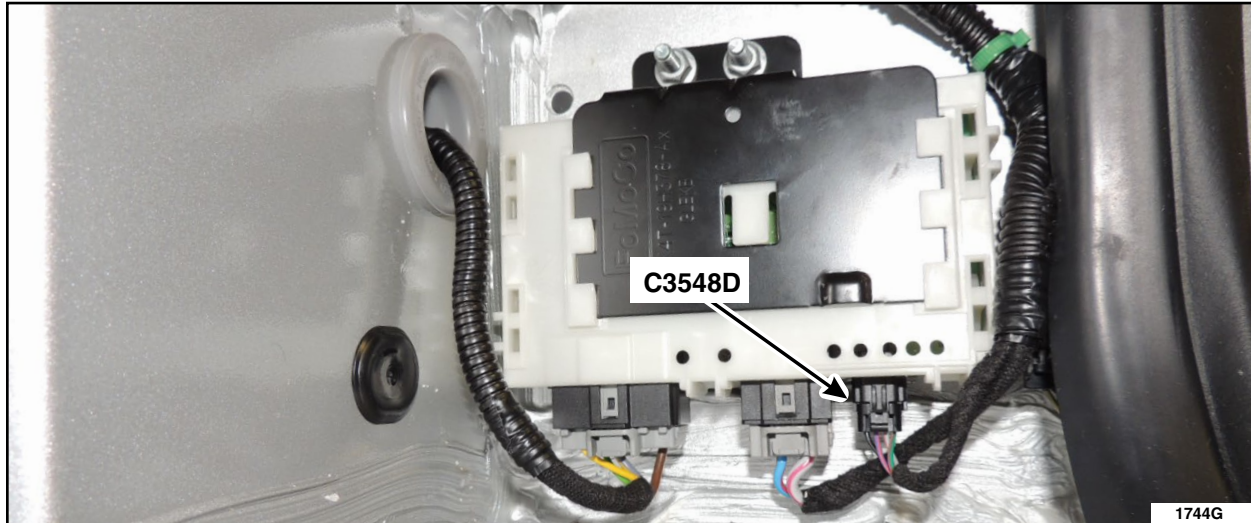

FIGURE 8
1. Disconnect the TRM electrical connector C3548D. See Figure 8.
- Re-connect electrical connector C3548D to the TRM. See Figure 8.